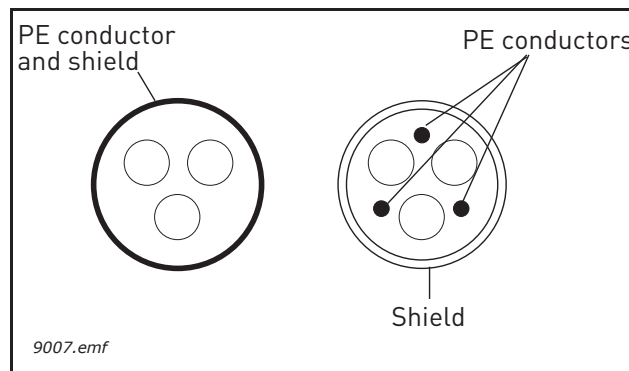

Figure 16.
- 2 = Symmetrical power cable equipped with concentric protection wire and intended for the specific mains voltage. (MCMK or similar recommended). See Figure 16.
- 3 = Symmetrical power cable equipped with compact low-impedance shield and intended for the specific mains voltage. [MCCMK, EMCCK or similar recommended; Recommended cable transfer impedance (1...30MHz) max. 100mohm/m]. See Figure 16.